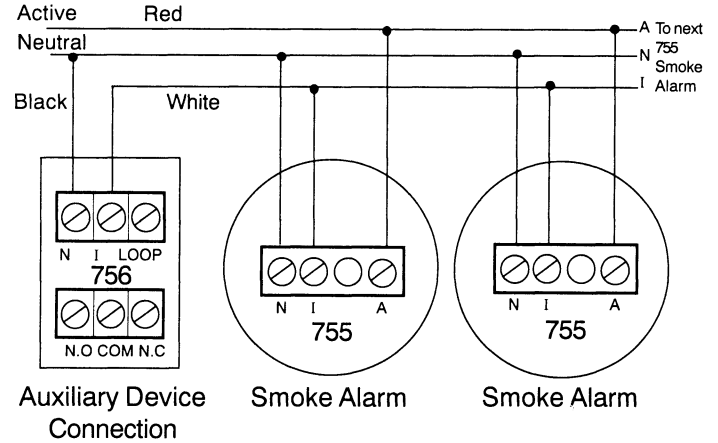

Figure 3
- Figure 3 illustrates the wiring diagram for connection of the 756 Isolation Unit to multiple 755 Smoke Alarms.